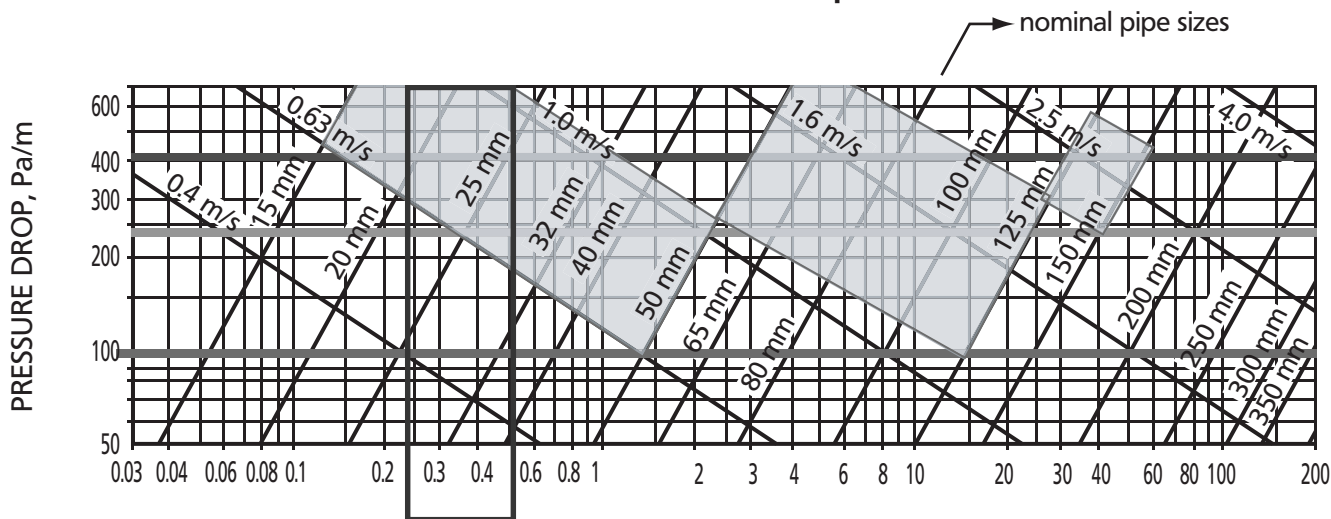

Fig. 1 VOLUMETRIC FLOW RATE, L/s
Based on the Darcy equation, the pipe friction / flow tables are made (e.g. fig.1).
- by means of the using the friction loss diagram (fig.1), the diameter should be determined based on following input: